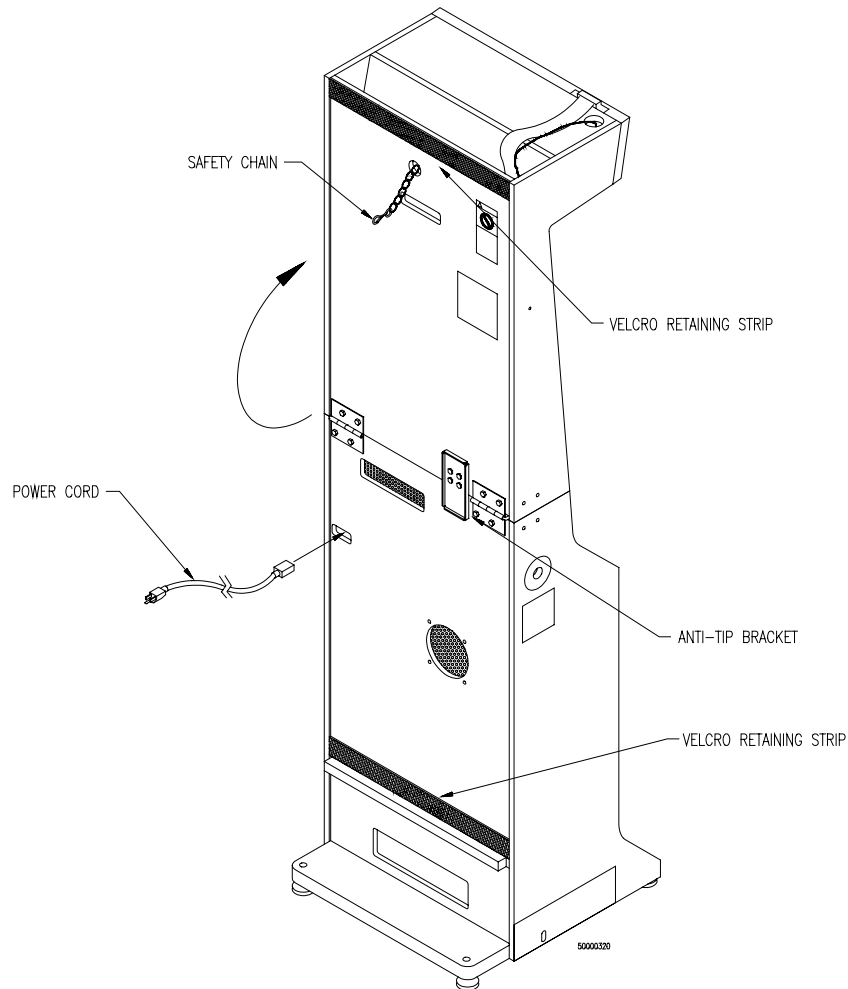
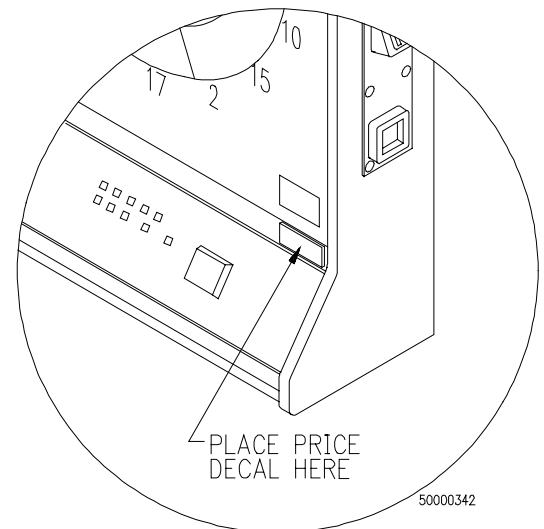

**Figure 5 - OVERHEAD AND TARGET SECTIONS - INTERNAL VIEW
Figure 13 - LOCATION OF PRICE DECAL
9. Install the Ultrasonic Transducer assembly (Player Change Sensor) as shown in Figure 5:
- (b) Secure the Ultrasonic Transducer assembly to the lamp hood using the (2) #10 - 24 wing nuts (HW3253) provided.
10. Mount the left and right expansion brackets and the wood filler as shown in Figure 5:
- (a) Mount the left bracket (MW4028) to the hood using (2) carriage bolts and wing nuts.
- (c) Mount the right bracket (MW4029) to the hood using (2) carriage bolts and wing nuts.
11. Using (4) #10-24 wing nuts (HW3253), mount the overhead display to the brackets installed in step 10.
15. Attach the price decal above the control panel, as shown in Figure 13.